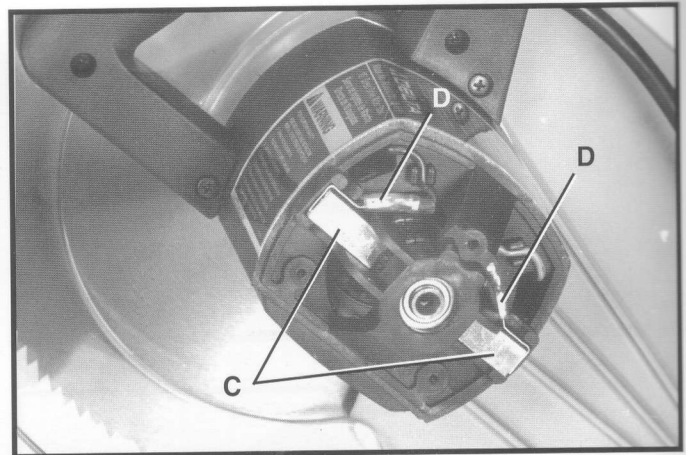

Fig. 48
2. The brushes are located in the two holders (C) Fig. 48. Remove spade type terminal connector (D) and pull out brush holders (C).